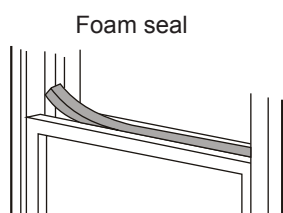

Fig.11
6. Cut the foam seal to the appropriate length and seal the open gap between the top window sash and outer window sash. See Fig. 11.